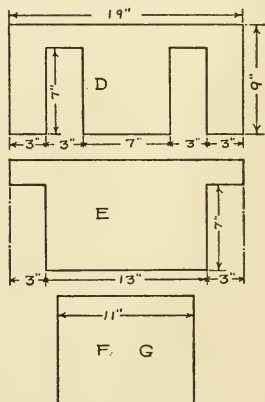

FIG. 69. PARTITIONS FOR SECOND FLOOR.
**Cut Out Partitions *D*, *E*, *F*, and *G***, as shown in Fig. 69.